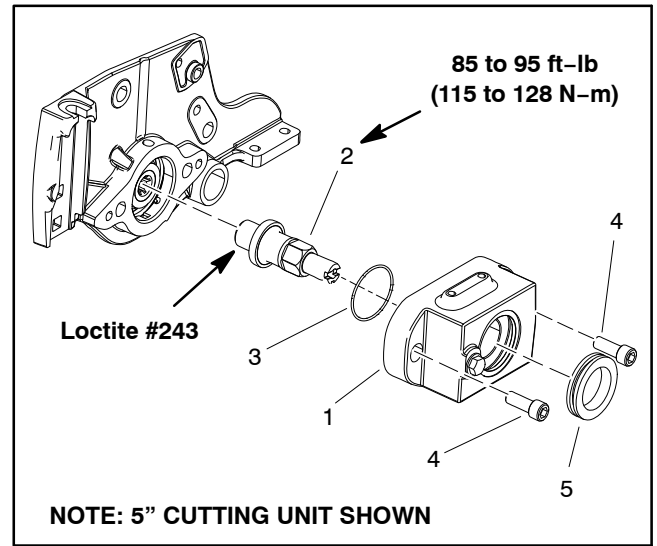

Figure 52
5. Remove roller brush drive shaft if needed (Fig. 52):
1. Install drive shaft if it was removed (Fig. 52):